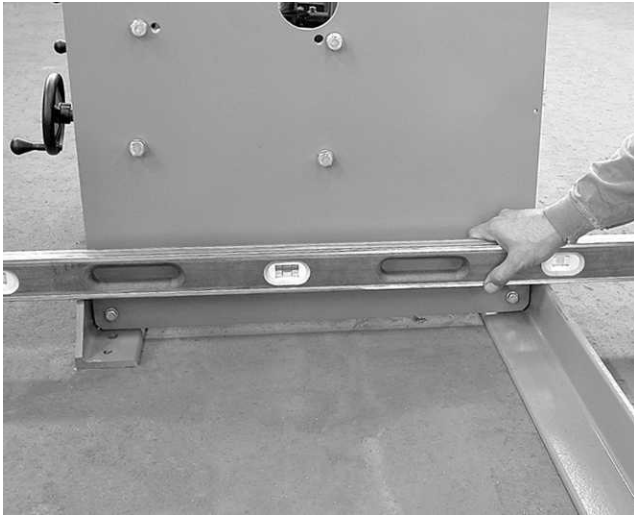

Figure 14
4. Using the levelling screws, level the center section from side to side. Next, level the center section front to back. A 5° tilt toward the back of the machine will be noticeable at the glass line when this procedure is done correctly. Use a quality level for this procedure (see Figure 14).